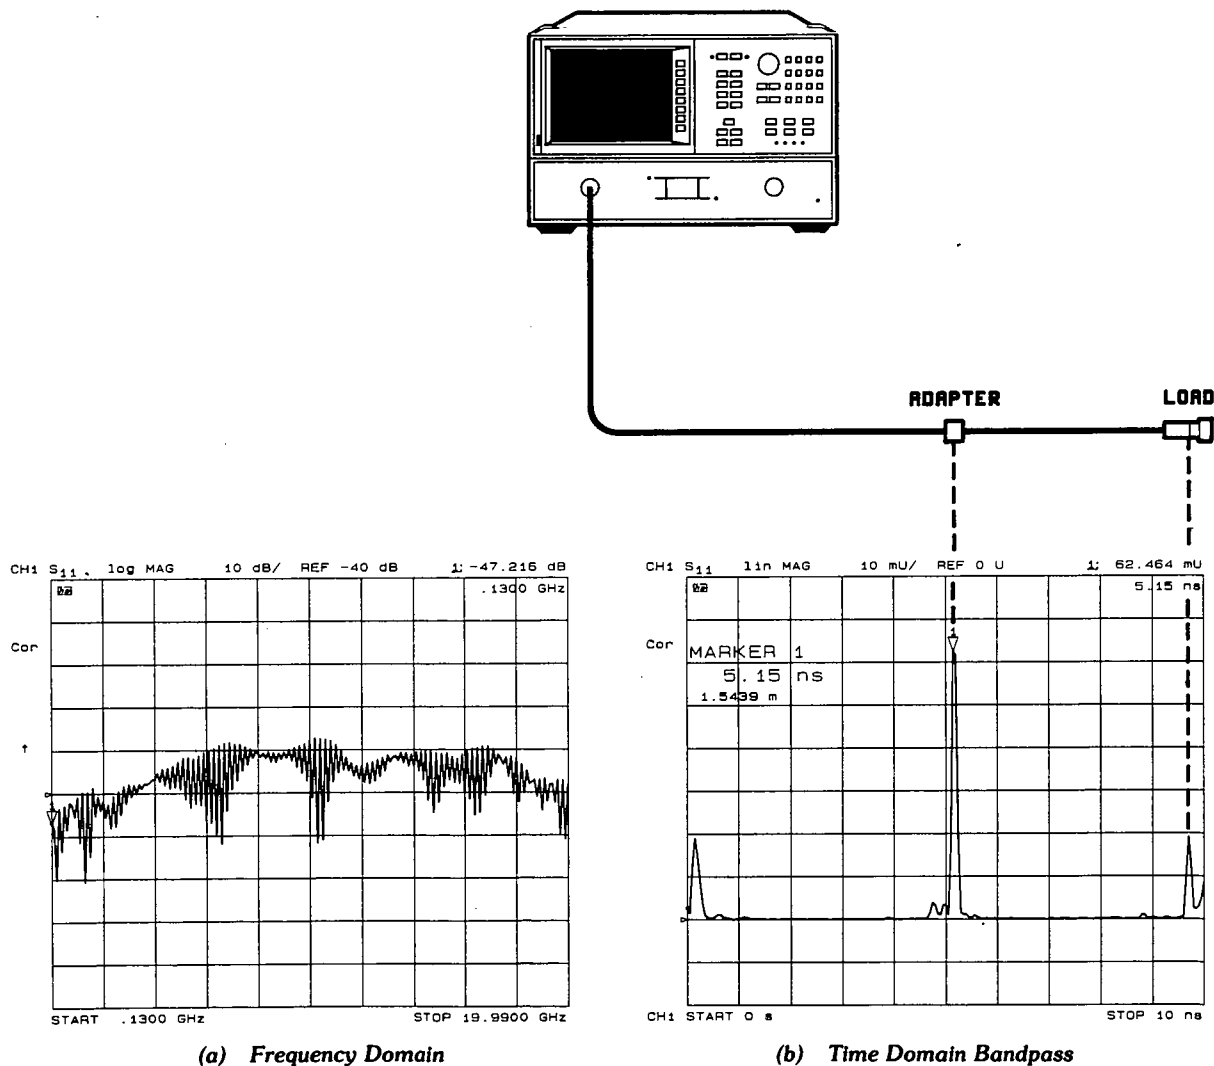

Figure 8-3. A Reflection Measurement of Two Cables
3. Connect one or more lengths of cable, with adapters between cable sections, as shown at the top of Figure 8-3.
Figure 8-3 shows typical frequency and time domain responses of a reflection measurement of two sections of cable.
**Interpreting the Bandpass Reflection Response Horizontal Axis.** In bandpass reflection measurements, the horizontal axis represents the time it takes for an impulse launched at the test port to reach a discontinuity and return to the test port (the two-way travel time). In Figure 8-3, each connector is a discontinuity.